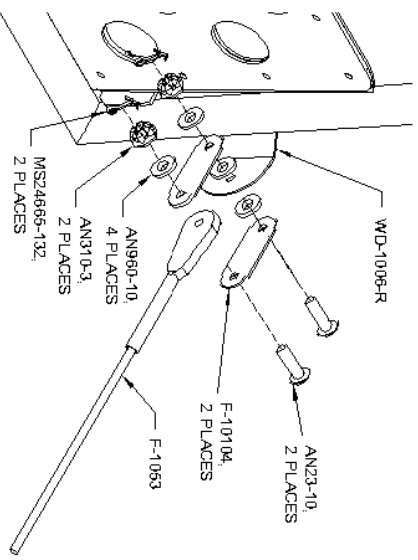

FIGURE 7: INSTALLING THE RUDDER CABLE LINKS
Step 10: Install the F-10104 Rudder Cable Links between the WD-1006-L and -R Rudder Pedals and the F-1053 Rudder Cables. See Figure 7.